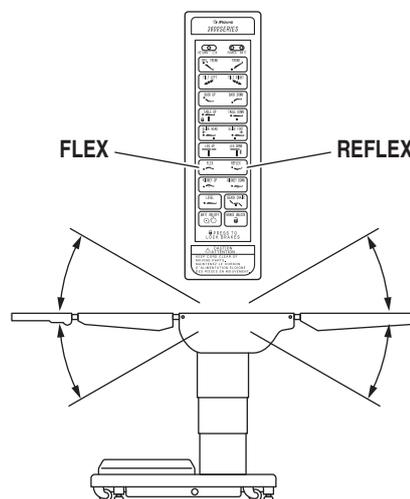

Figure 2-13. Flex/Reflex Positioning
h. Flex Positioning To place the table top in a flex position from horizontal, press the FLEX button (figure 2-13). To return the table top to a horizontal position or into a reflex position, press the LEVEL or REFLEX button.